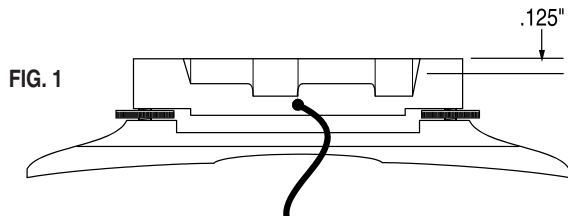

FIG. 1
2. When profiling and notching the top of the bridge, you may safely remove up to 1/8" (.125") of wood without damaging the sensing element. (See Fig.1)